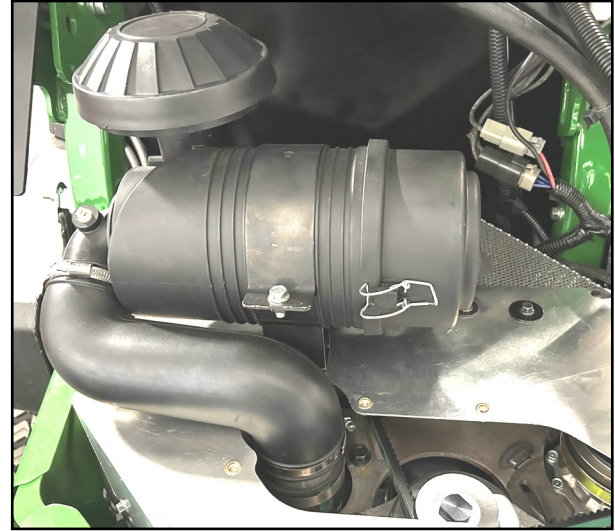

Fig. 2.32 (Air Filter)
- 2.32** Slip the air filter over the previously installed aluminum pipe at the throttle body. Secure OEM hose clamp. Reattach the OEM air filter hold down clamp. See Figure 2.32